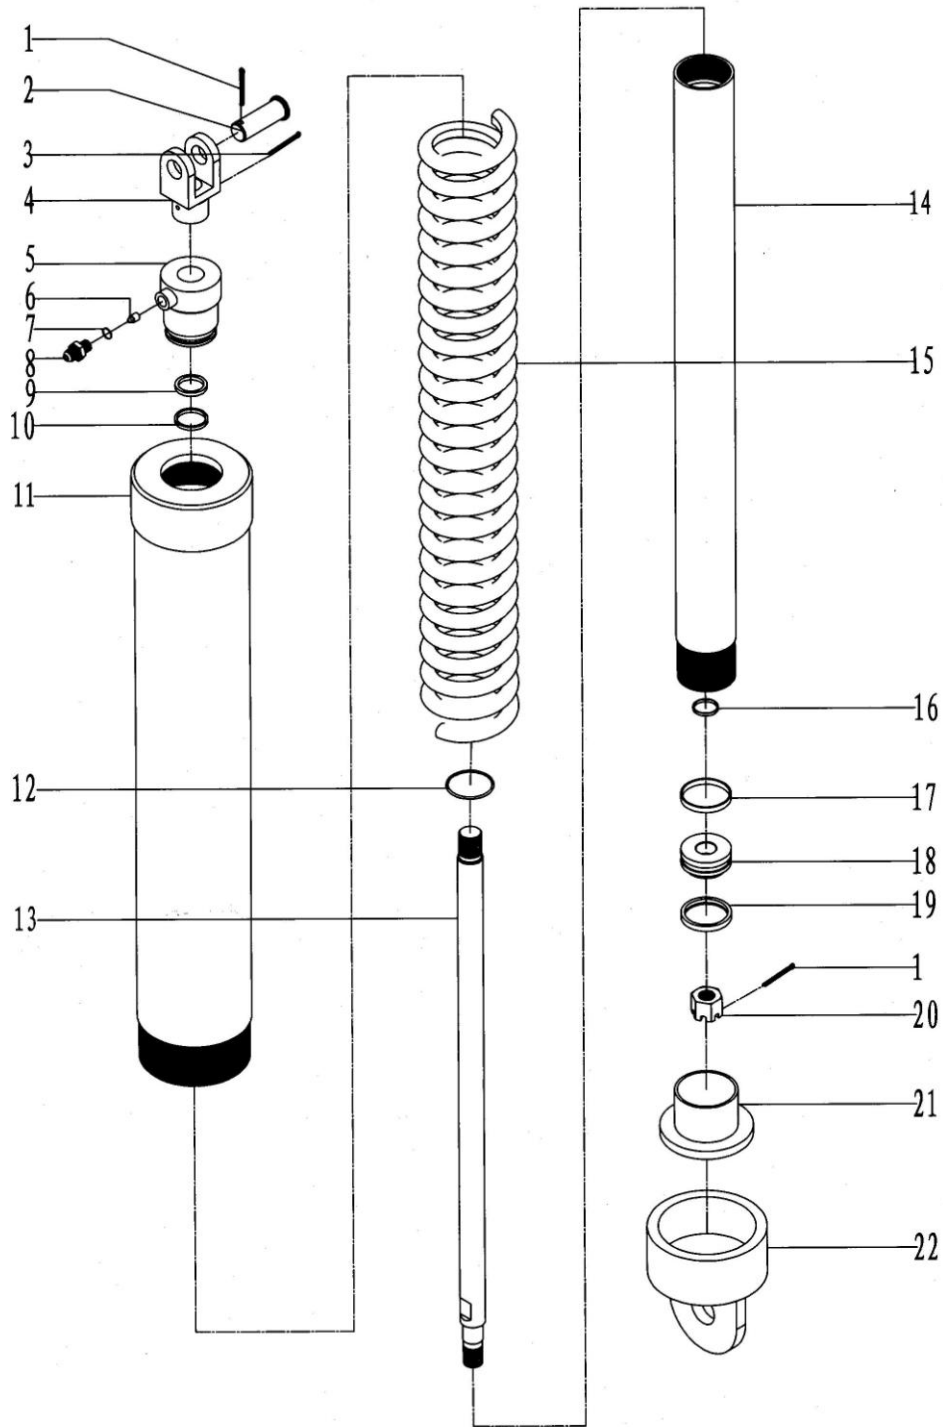

Fig. 7-24
24. Hydraulic lift cylinder assembly (Fig 7-24, Table 24)